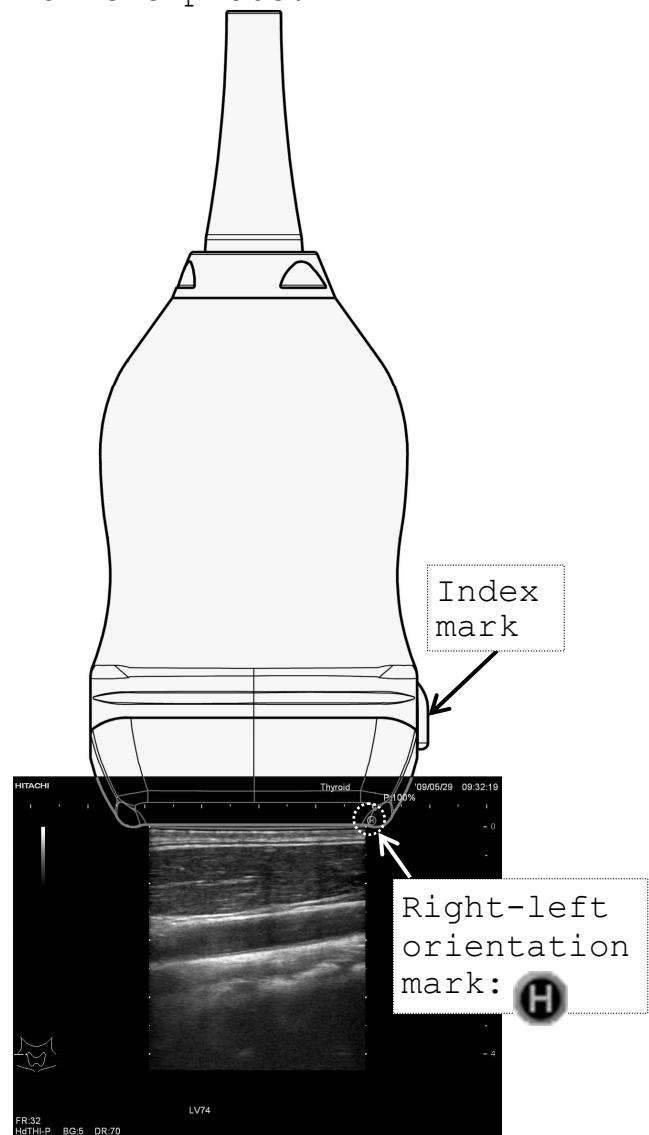

Fig. 2 Relationship between Index Mark and Right-left Orientation Mark
- (1) Confirm that the probe is cleaned and disinfected.
- (2) Cover the probe with a disposal probe cover to protect the probe. The probe cover should be allergy free material to avoid allergic reaction. Apply acoustic coupling gel inside and outside of the probe cover. Acoustic coupling gel is required as a couplant.
- (3) Connect the probe to the ultrasound diagnostic scanner, operate the scanner, and adjust the image, all according to the instructions given in the operation manual for the ultrasound diagnostic scanner with which the probe is used as connected.
- (4) Confirm the direction of the probe. The relationship between the direction of the probe and the B-mode image is shown in Fig. 2. The right-left orientation mark on the image indicates the direction of the index mark on the probe.
- (5) Perform the reprocessing procedure in accordance with the procedure stated in "4. Reprocessing procedure" every time immediately after completing the ultrasound examination.
- (6) Store the probe in accordance with the storage condition indicated in "7. Specification".